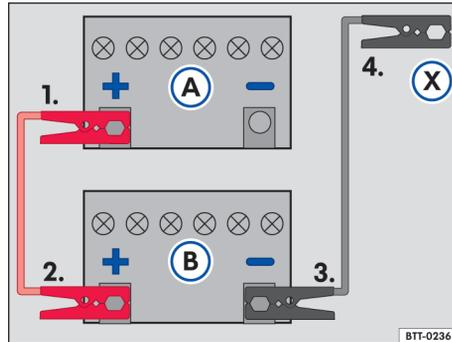

Fig. 164 Jump lead attachment diagram: discharged vehicle battery (A) and battery in the vehicle providing assistance (B).
Key for → Fig. 164:
Connect the jumper cable strictly following the sequence 1 – 2 – 3 – 4 → Fig. 164.
- Connect one end of the *red* jump lead to the positive terminal (+) of the vehicle with the discharged battery → Fig. 164(A) → ⚠.
- Connect the other end of the *red* jumper lead to the positive (+) terminal of the assisting battery (B).
- Connect one end of the *black* jumper lead to the negative terminal of the assistance supply-battery (B).
- Connect the other end of the *black* jump lead (X) to the vehicle with the discharged battery at the jump starting point (grounding point) or to a solid metal part firmly bolted to the cylinder block – but not near the battery (A) → ⚠.